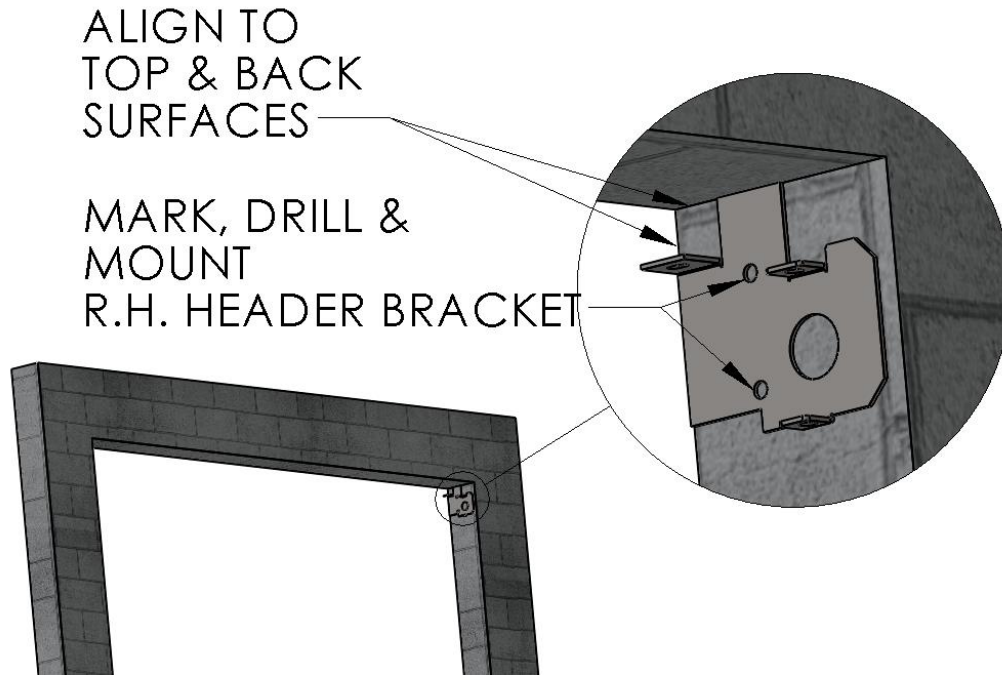

Figure 4 MARK, DRILL, INSTALL R.H. HEADER MOUNTING BRACKET
3. At the upper right of the opening, use the R.H. Header Mounting Bracket to transfer the hole locations to the mounting surface, and install this bracket. (Figure 4 MARK, DRILL, INSTALL R.H. HEADER MOUNTING BRACKET)